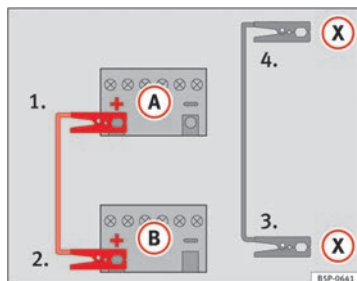

Fig. 197 Diagram of connections for vehicles with Start-Stop system
- Connect one end of the *red* jump lead to the positive \oplus terminal of the vehicle with the flat battery $\textcircled{A} \Rightarrow$ Fig. 197.
- Connect one end of the *black* jump lead \textcircled{X} to a suitable ground terminal, a solid piece of metal in the engine block, or to the engine block \Rightarrow Fig. 197.